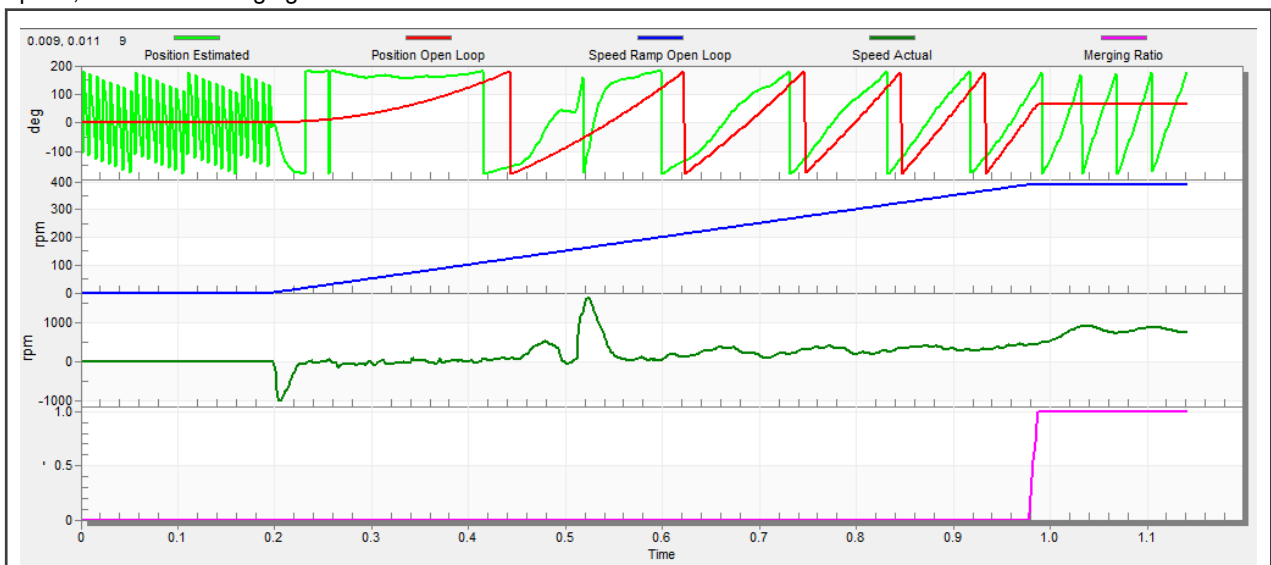

Figure 42. Motor startup
1. The start-up process can be tuned by a set of parameters located in the “Sensorless” tab. Two of them (ramp increment and current) are accessible in both tuning modes. The start-up tuning can be processed in all control modes besides the scalar control. Setting the optimal values results in a proper motor startup. An example start-up state of low-dynamic drives (fans, pumps) is shown in Figure 42.